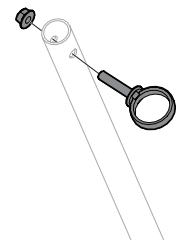

Figure 14
- Connect ring (603-0297) to lift handle assembly (689-02499) with hex flange lock nut (712-3004A) from hardware pack 689-02139. See Figure 14.